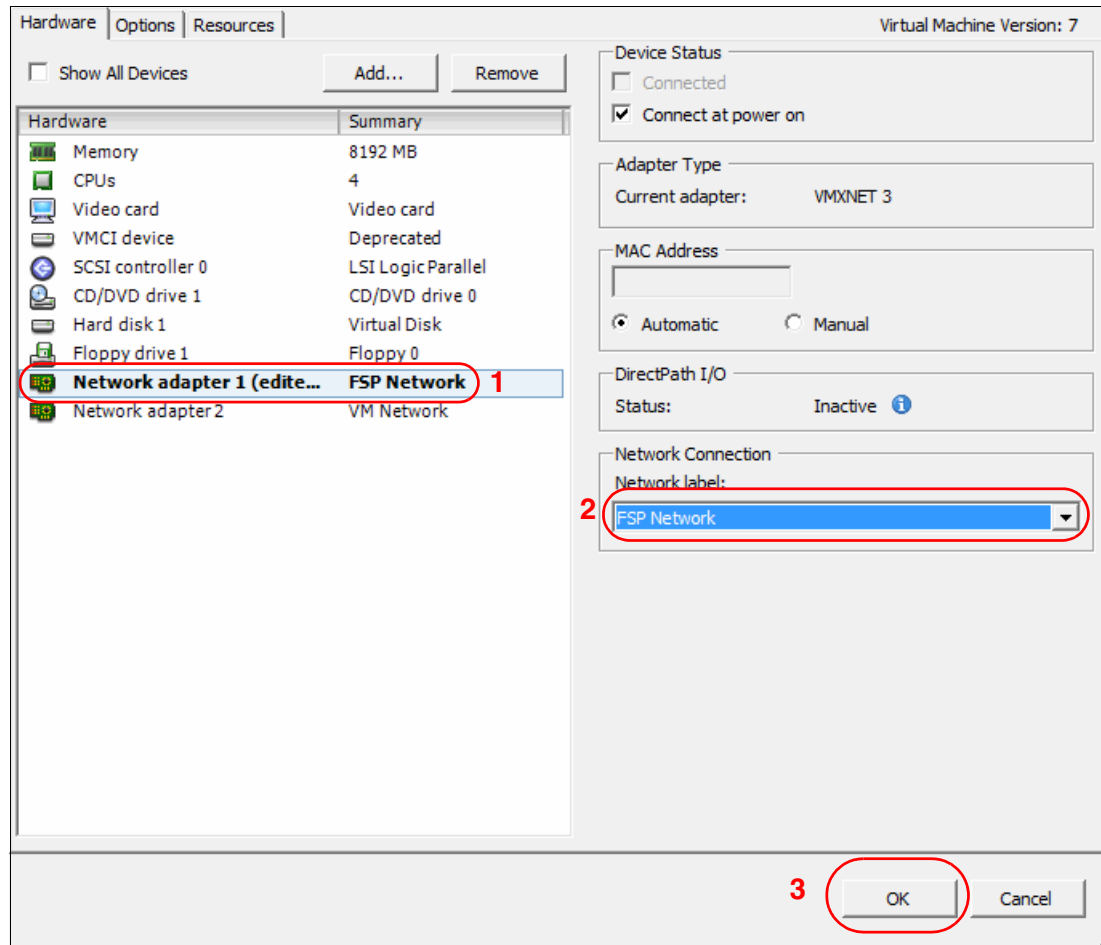

Figure 3-43 VM Properties
10. In the Virtual Machine properties panel (Figure 3-43), select the first virtual NIC, choose the appropriate network bridge, and then click **OK**.